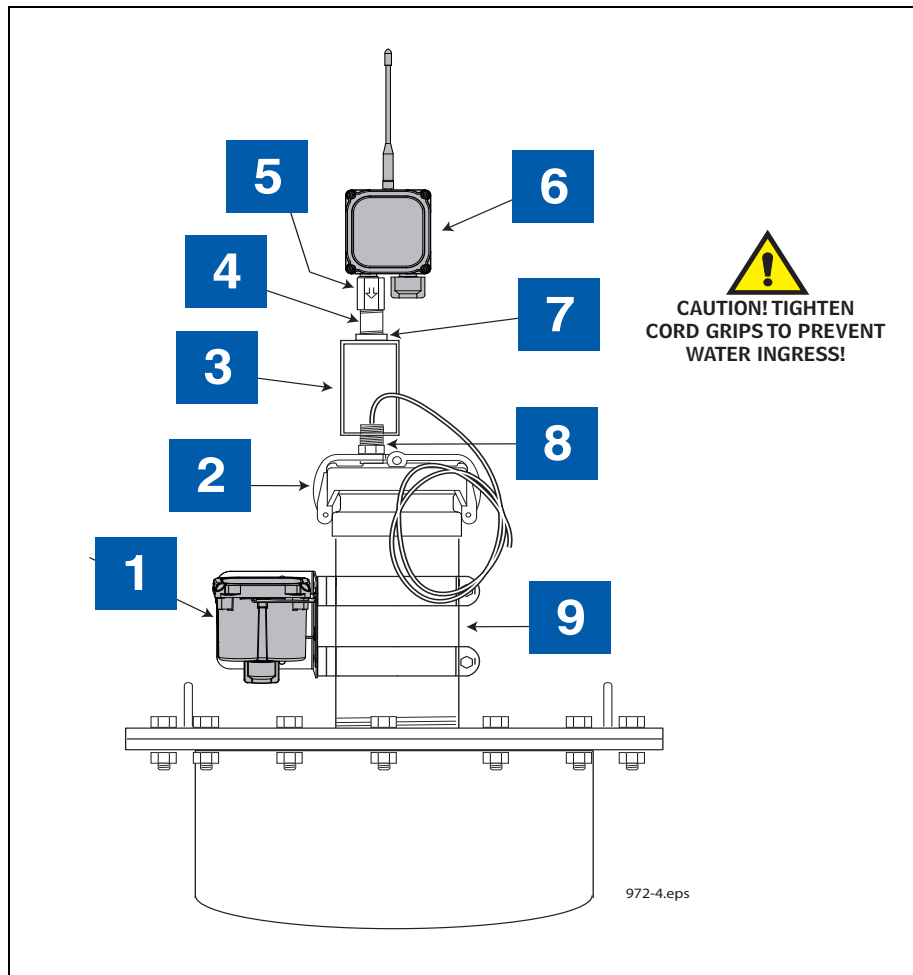

Figure 13. Installing TLS XL-Transmitter - manway riser pipe
8. Lower the battery pack into its support bracket (see Figure 13). Do not connect battery cable to battery pack at this time.
TLS XL-TRANSMITTER INSTALLATION - MANWAY 4-INCH RISER PIPE (ref. Figure 13)
LEGEND FOR NUMBERED BOXES IN Figure 13